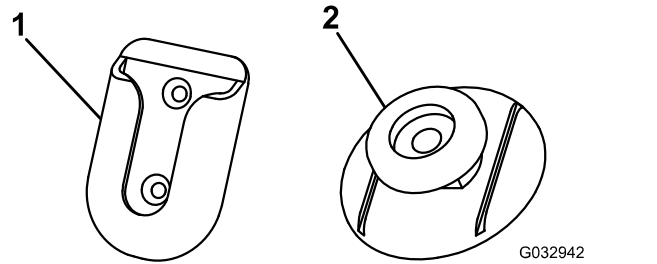

Figure 26
- Clean the back of the swivel mount (Figure 26) with the alcohol wipe and then dry it.
- Remove the backing from 1 side of the adhesive and apply it to the back of the mounting tab (Figure 26).